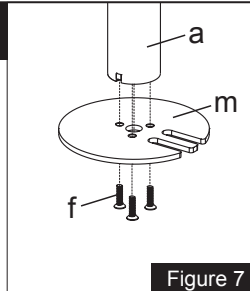

Figure 7
2. Install the Grommet Base Plate(m) to the Pole(a) using 3pcs M5x14 Bolts(f), and tighten using the Allen Key(o), see Figure 7.